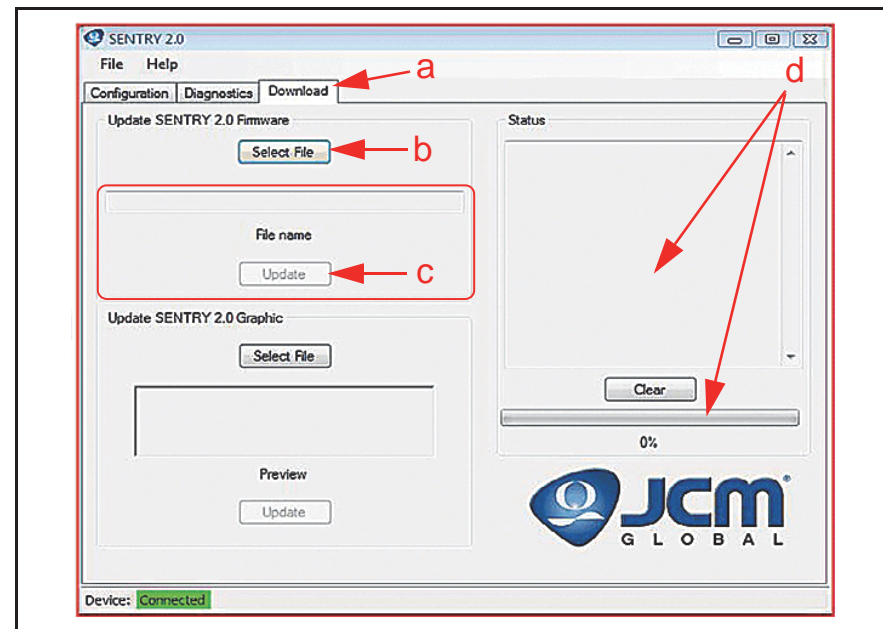

Figure 12 SENTRY 2.0 Download Screen Selections
3. To download (or update current) Sentry 2.0 Application Firmware, click on the Sentry 2.0 Configuration Utility’s “Download” tab (Figure 12 a).
4. Click on the “Select File” button (Figure 12 b).
6. Once the selected “Application Code” appears in the “File name” window, click the “Update” button (Figure 12 c), to initiate a download to a Sentry 2.0 Unit. The Download Status and Progress (Percentage) are displayed in the “Status” window (Figure 12 d) as the Download progresses from 0% to 100%.